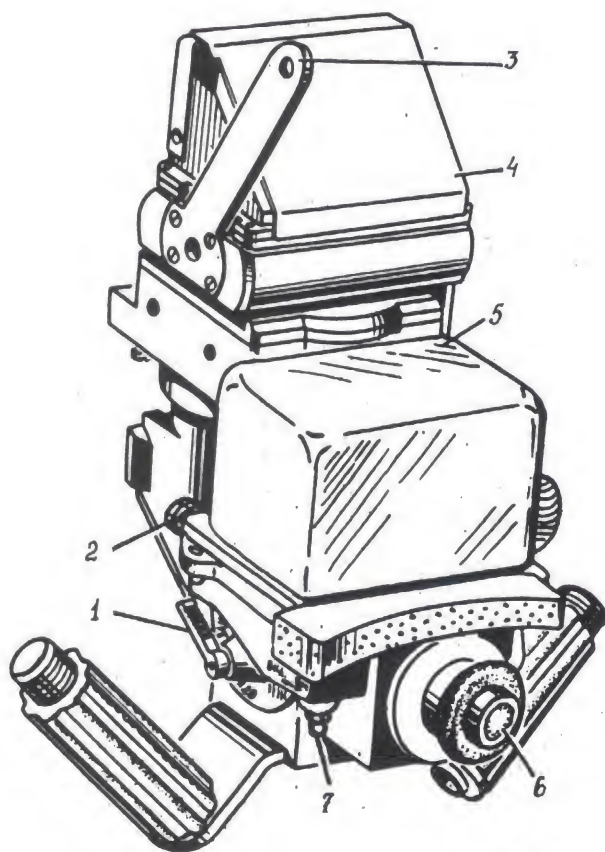

FIG. 104. COMMANDER'S NIGHT VISION DEVICE TKH-1C
1. Night vision device TKH-1C (Fig. 104).
2. Set the knob of switch 7 (Fig. 104) to the ON position. Instantly the typical whistling noise of the operating power pack will be heard.